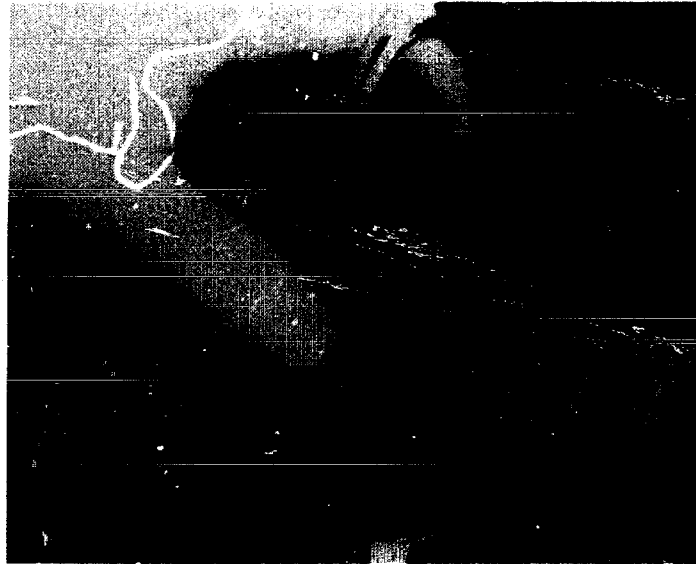

FIGURE 16
3. Replace the capacitor caps and install the capacitors with caps in the brackets. Use a screw driver to pry the locking tab of the capacitor bracket up as the capacitor is pushed into place. See Figure 16.
2. Replace the capacitor cap and install the capacitor with cap in the bracket. Pry up on the locking tab of the capacitor bracket while pushing down on the capacitor until it snaps in place. See Figure 16.